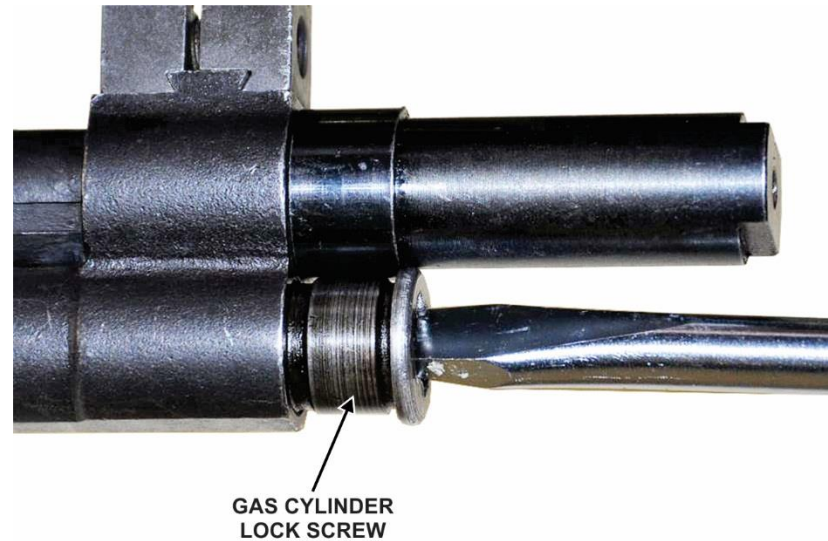

Figure 35. Gas cylinder lock screw installation
- 5) Attach the gas cylinder lock screw into the gas cylinder with a T-grip screwdriver (preferred) or a standard flathead screwdriver and firmly tighten using hand strength only (fig 35).